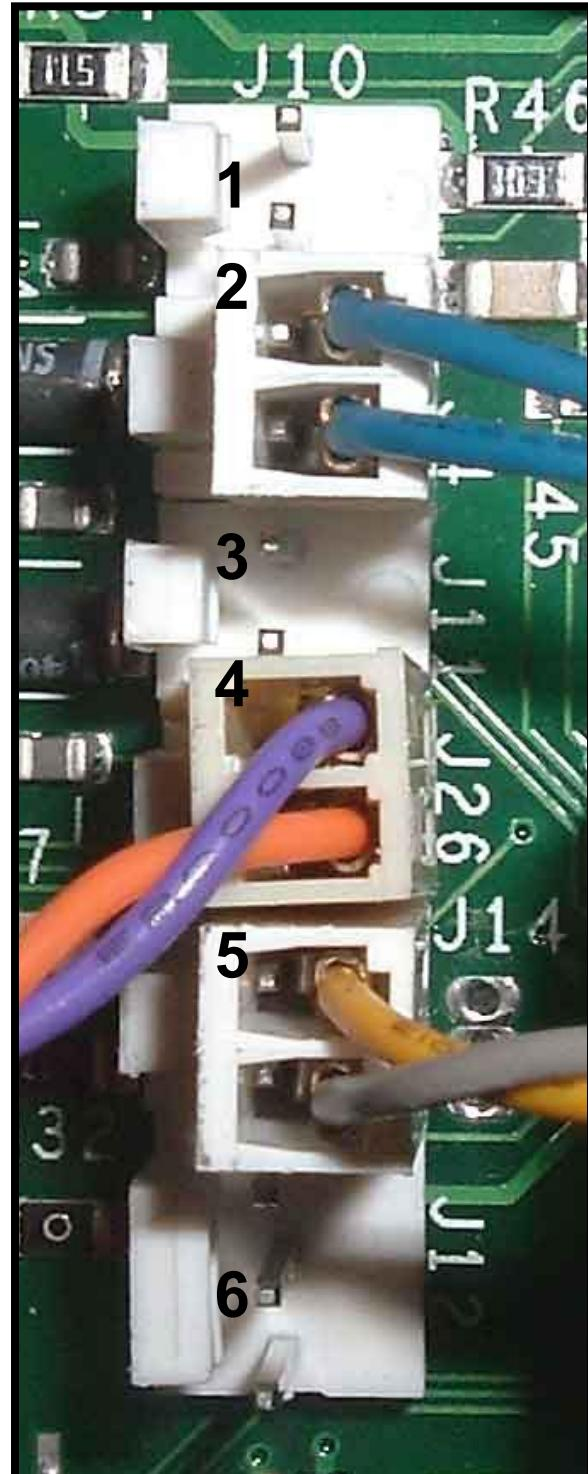

Figure 1
- 2) If required, connect the microphone wires (yellow/grey) to the Telephone Junction Board terminal block J10, position 5. Refer to Figure 1.